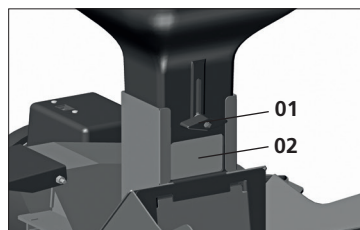

Fig. 18
Loosen the butterfly nut (1), located on the side of the funnel. With the regulator (2), released adjust it by sliding upwards for a larger opening or downwards for a smaller opening. After adjusting, tighten the butterfly nut (1), [Fig. 18].